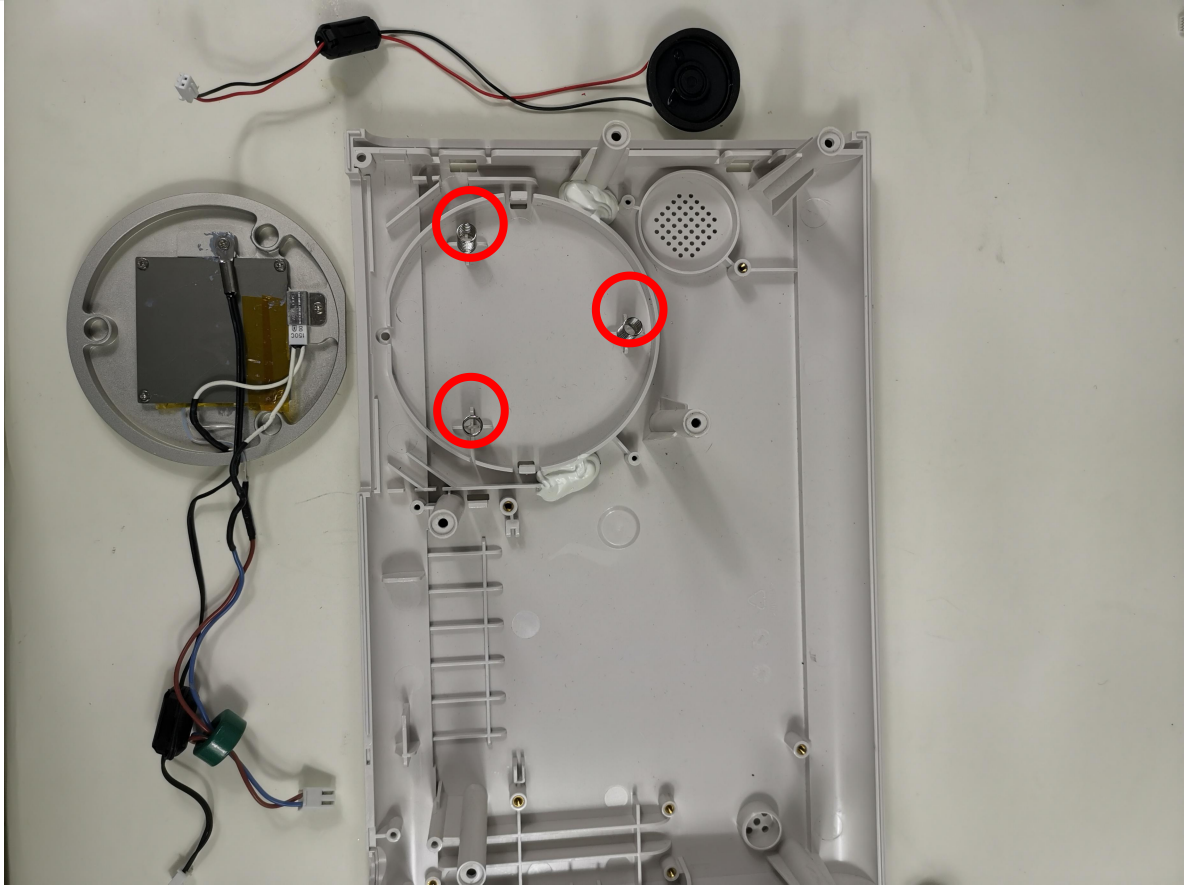

Figure 3-6-5
③ Very carefully take out the heating plate and the horn, keep the 3 springs well in the red circle in Figure 3-6-5.